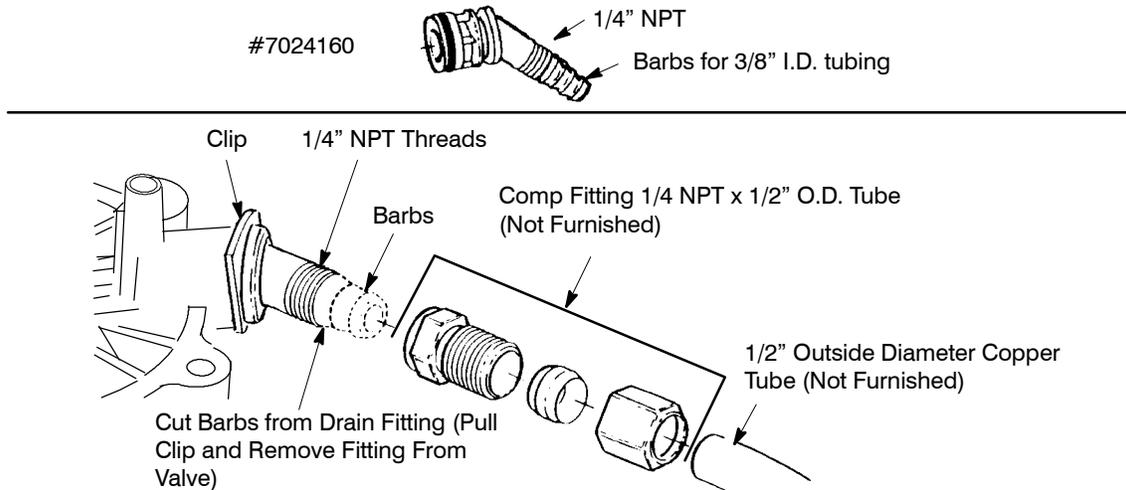

Figure 4
VALVE DRAIN OPTIONS: Flexible drain hose is not allowed in all localities (check your plumbing codes). For a rigid valve drain run, cut the barbed section off the drain fitting for access to the 1/4” pipe threads. Then plumb a rigid drain as needed (see Figure 4).
1. Connect a length of 3/8" or 7/16" I.D. hose (check codes) to the valve drain elbow, on the controller, see Figure 4. Use a hose clamp to hold the hose in place. Route the hose out through the notch in the Faceplate Cover.